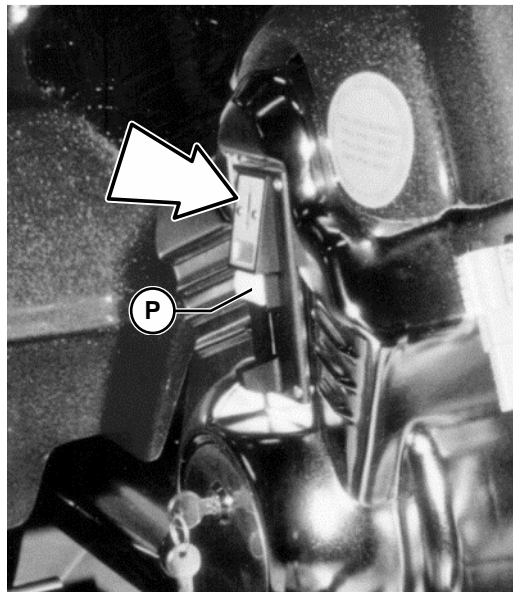

Fig. 16
3. Insert a coin in the slot shown by the arrow in Fig.16, and wait the visual signal of machine ready (lighting of the orange light on the front of the vehicle);